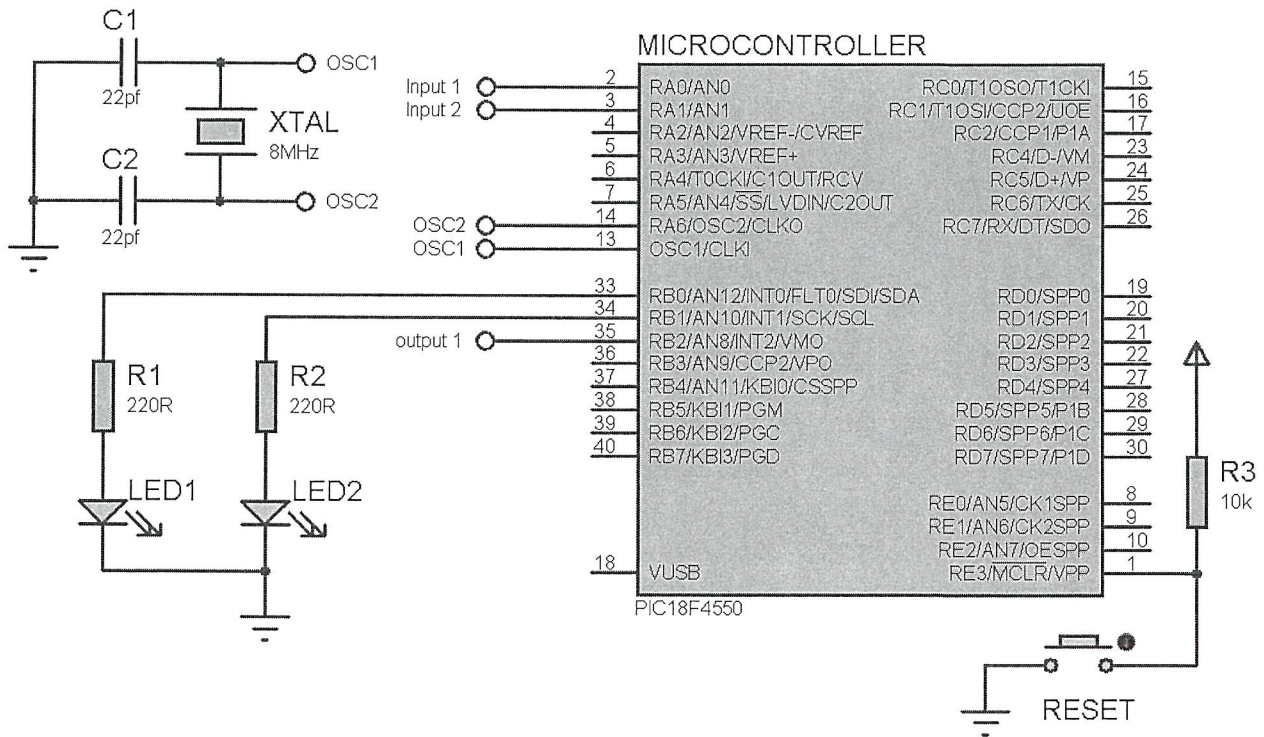

Figure Q2
- Q2** **Figure Q2** shows a simple application using PIC 18F4550 to read two analogs input via RA0 and RA1 pins. There are two LEDs connected to RB0 and RB1 respectively. RB2 is connected to another output called output 1. The PIC is clocked at 20MHz.
- (a) Determine and explain the initialization value of ADCON0 to implement the circuit in **Figure Q2**. Suggest the best value for ADCON1 and ADCON2. (5 marks)
- (d) Referring to **Figure Q2**, write a simple C program to light the LED1 when the analog value of RA0 is greater than RA1 and light the LED2 when the analog value of RA1 is greater than RA0. (9 marks)
- Q3** (a) List **THREE (3)** factors that may affect the speed of a motor. (3 marks)